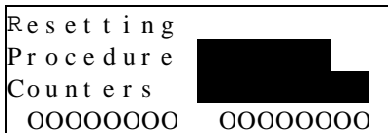
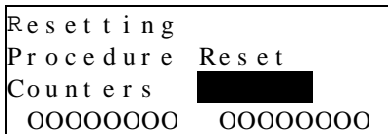

Figure 8 - Resetting Procedures “Count Down” warning on the LCD Display
Figure 9 - Resetting procedures with "Procedure" reset message
By holding the “Mode” button for longer than five (5) seconds, the “Reset” count down screen appears (Figure 8). The OM-LMPLC will begin to count down (this is indicated by the blocks shown). When all the blocks right of the “Procedure” label disappears, the procedure is reset (this will take approximately 5 seconds). When reset, the reset message appears (Figure 9). After resetting the procedure, the OM-LMPLC will be counting down to reset the counters in a similar fashion. To cancel resetting, release the mode button before the OM-LMPLC counts down to zero blocks.